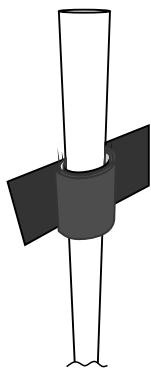
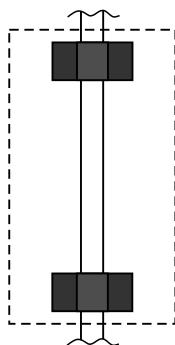

Fig 2.2D
Fig 2.2E
4. Position the straps on the rail with the loop velcro tabs at the widest (for horizontal mounting, see Fig 2.2D) or tallest (for vertical mounting, see Fig 2.2E) points.